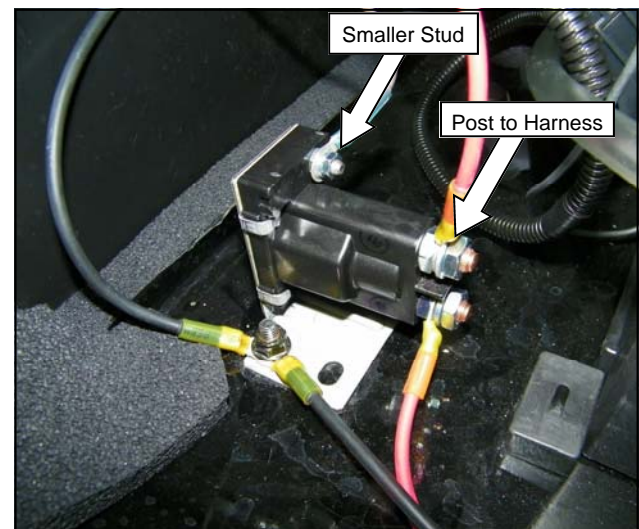

Fig. 8
8. Route the 10 Ga. Red wire from wire harness WHHLA03 to the opposite post of the solenoid from the harness attached to the battery. As shown in figure 8.
9. Attach ring terminal end of the 16 Ga. Brown wire onto the smaller stud at the base of the solenoid and tighten the nut supplied. Also shown in figure 8.